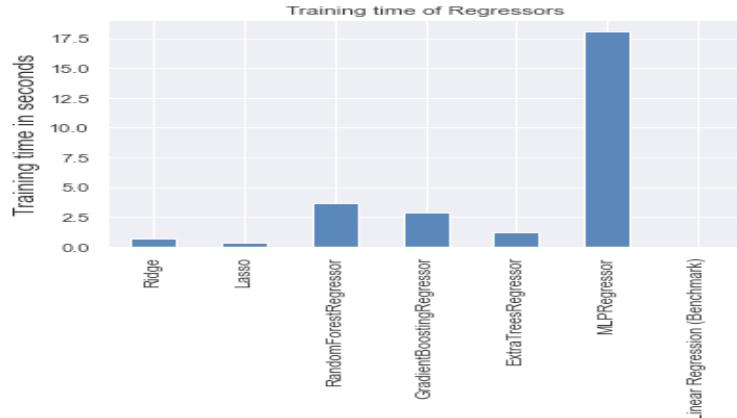

Fig 41
- b. Comparing the Training time, for fig 41 -